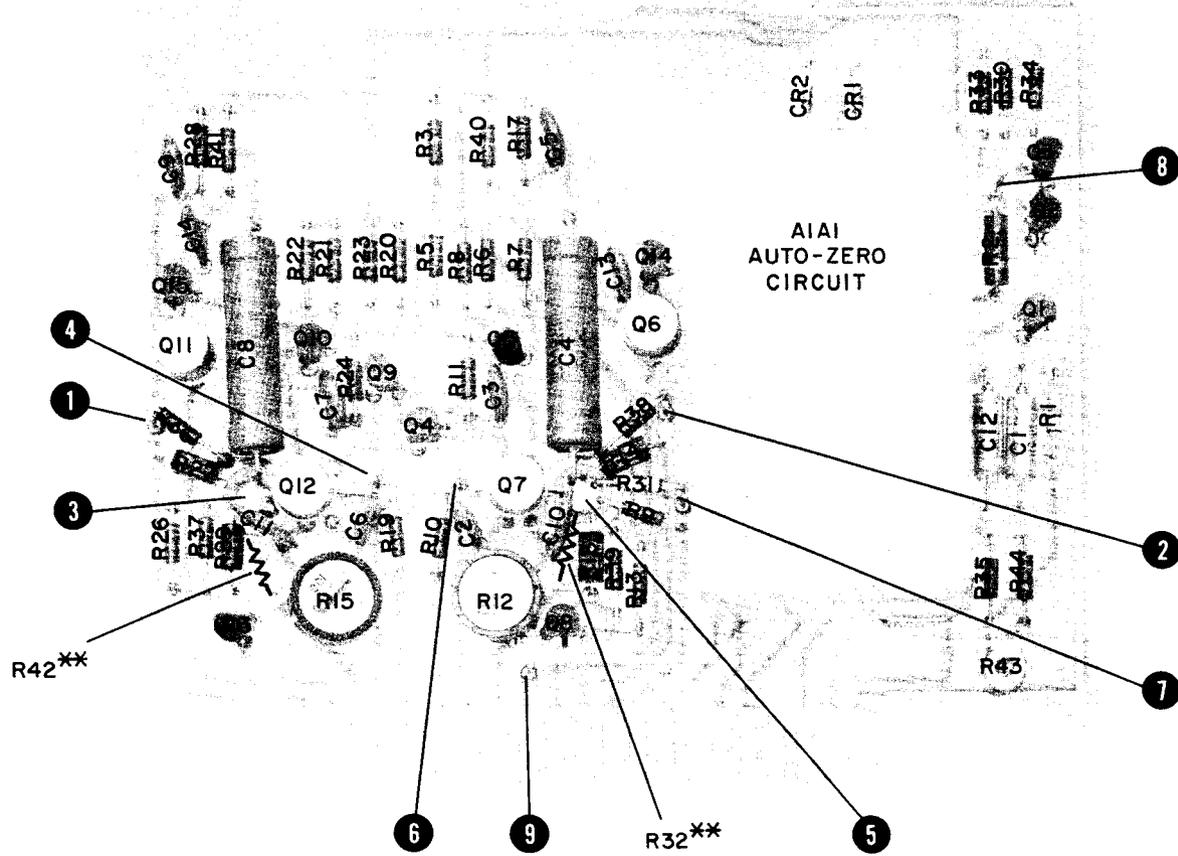

Figure 7-7. A1 Bridge Assembly Component Locations
b. Referring to Figure 7-7, locate the board position where A1R42 is to be placed. Install the 261K, 1%, 0.125W resistor, supplied with the kit, in that position.
b. Locate the printed circuit board eyelets in which A1R32 and A1R42 are to be placed by referring to Figure 7-7. Note that one end of these resistors will be placed inside the guard rings that attach to the bases of A1Q12B and A1Q7B. There is a vacant eyelet provided inside the guard rings to make this connection.